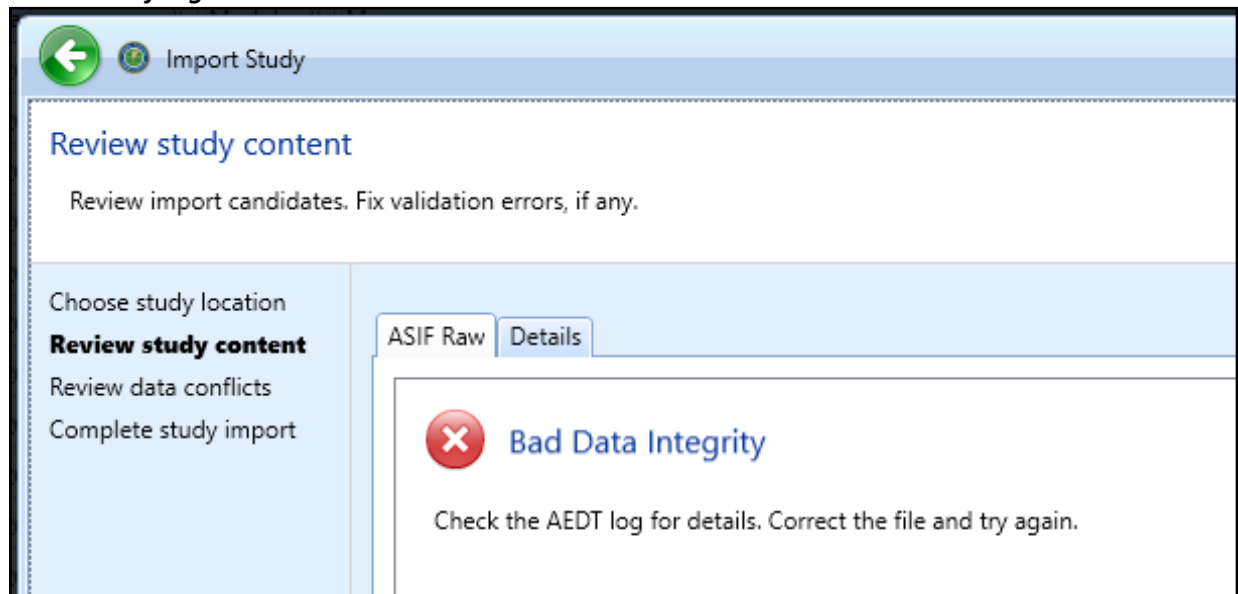

Figure 53- Review study content - bad data integrity
4. The *Review study content* step displays validation errors if any (Figure 53).